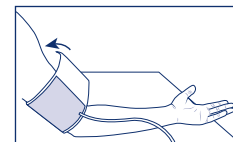

Figure 2
- Now pull the free end of the cuff tight and close the Velcro fastener (Figure 2). The cuff should not be too tight. You should be able to insert two fingers between the arm and the cuff.